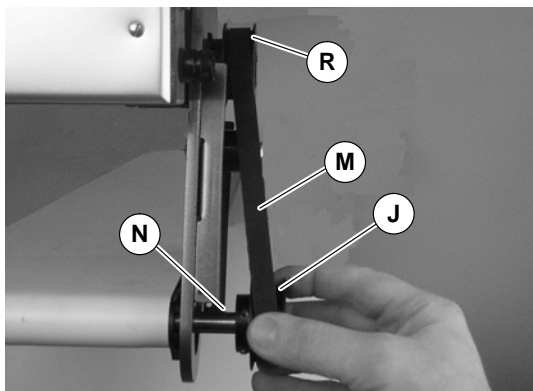

Figure 5
4. Install key (N of Figure 5).